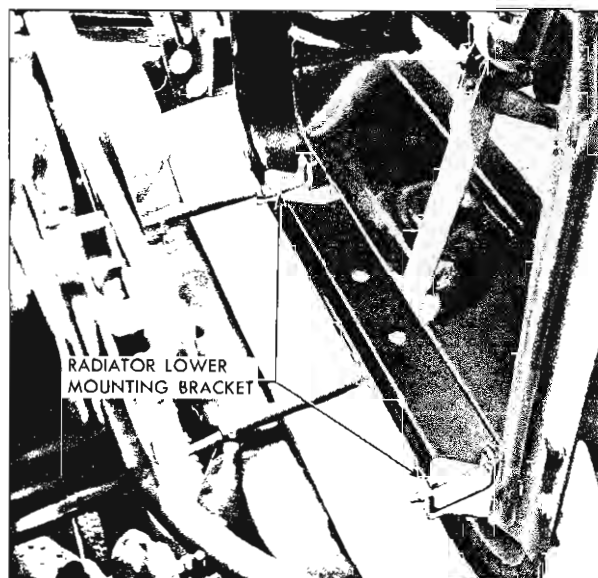

Fig. 1-4 Location of Radiator Assembly Lower Mounting Brackets
6. Remove radiator assembly by pulling straight up. Note that the radiator assembly is held at the bottom by two "cradles" secured to the radiator shroud at bottom (Fig. 1-4).